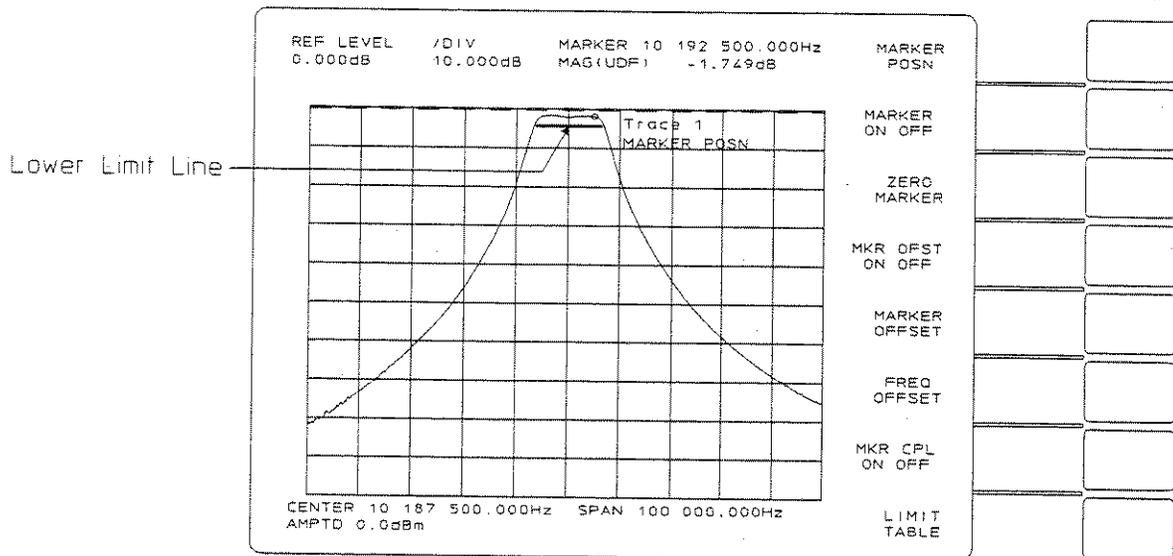

Figure 2-25. Lower Limit Line for 3 dB Passband
8. Check for where the limit was drawn on the display by pressing [ LIMIT CONFIG ] and toggle to [ LINES **ON** OFF ]. Press [ RETURN ] (twice) and look for the limit on the display as in figure 2-25.